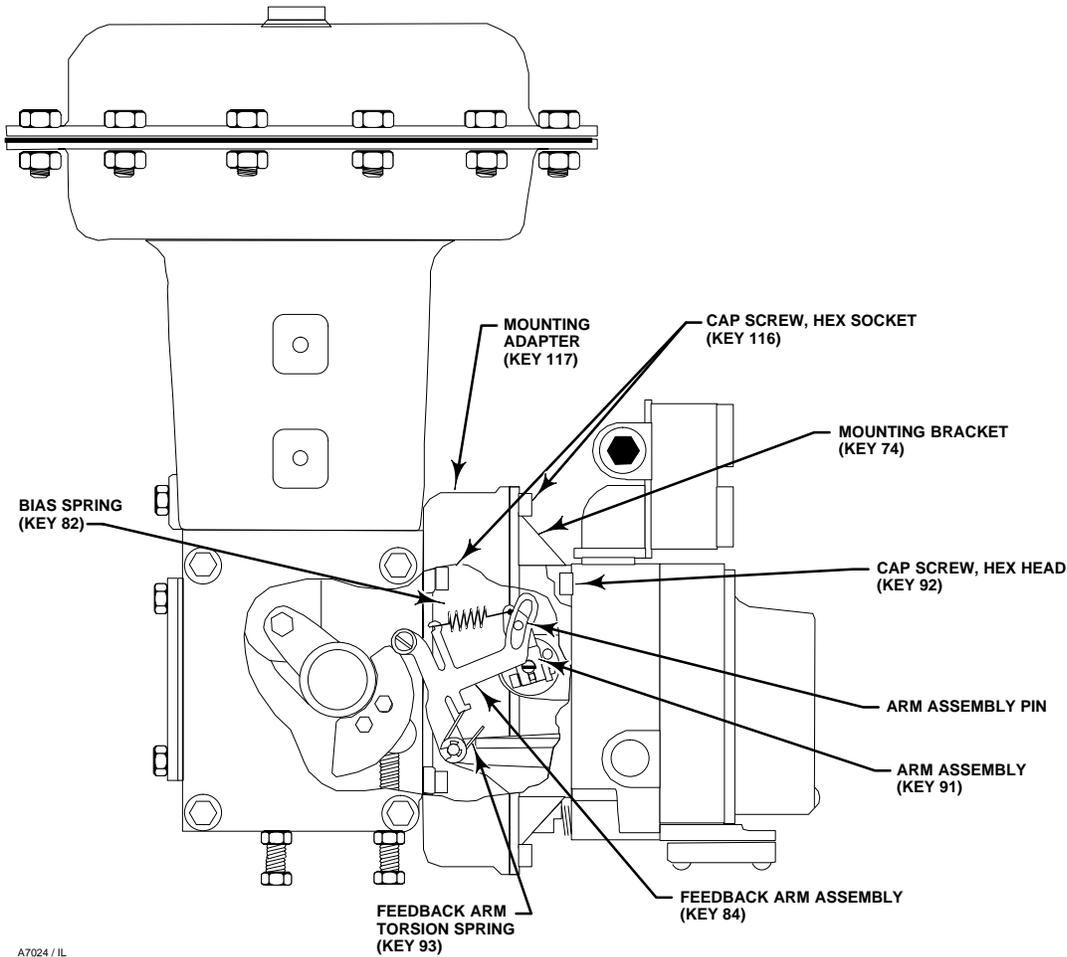

Figure 8-6. Type DVC5020f Digital Valve Controller Mounted on Type 1052, Size 33 Actuator
6. See figure 8-6 for parts identification. Remove the instrument from the actuator. Disconnect the bias spring (key 82) from the feedback arm assembly (key 84) and the arm assembly (key 91). Remove the mounting bracket (key 74) from the back of the instrument.